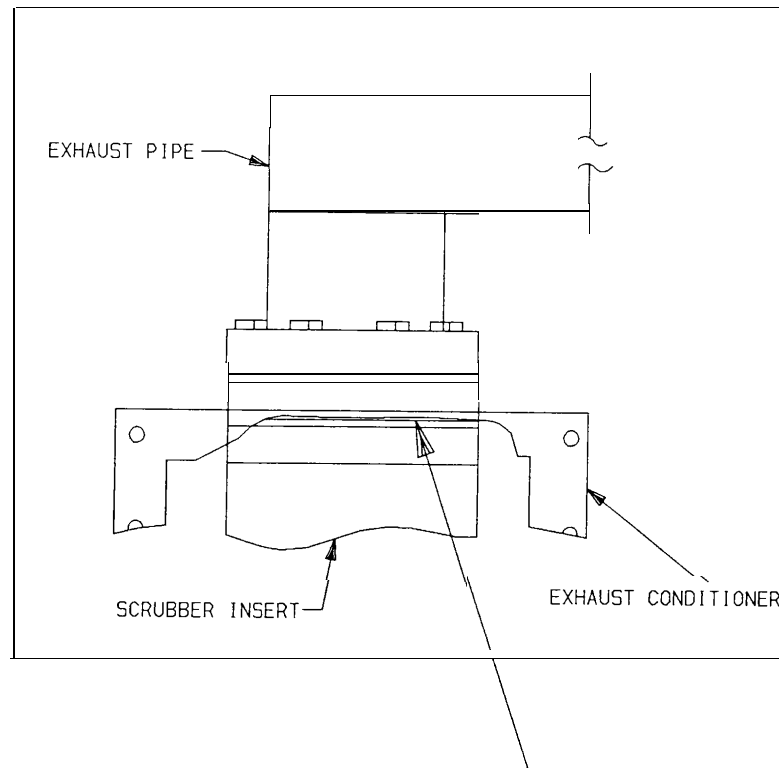

Figure 12. Gasket Between Exhaust Conditioner Flange and Scrubber Insert Flange.
21. () A phosphor bronze gasket is installed between the flange of the exhaust conditioner and the flange of the scrubber insert as shown in Figure 12.